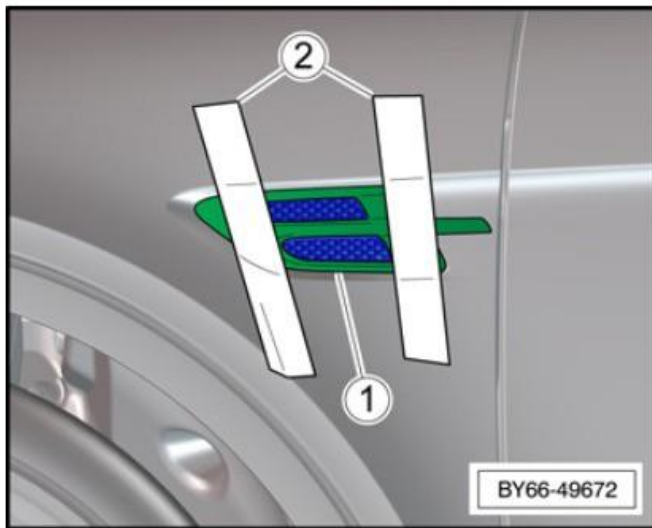

Figure 4
6) Referring to Figure 4 - Secure the front wing 'Flying B' (1) in place with adhesive tape (2)
- Allow 1 hour to fully cure before removing the tape (2)